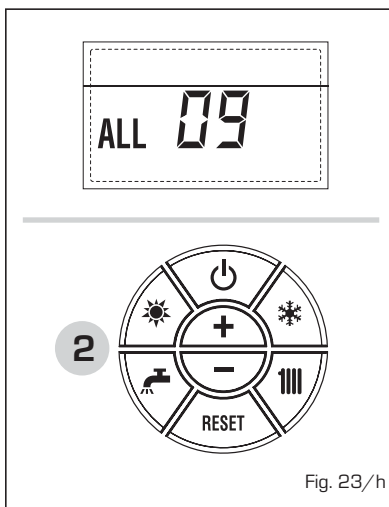

Fig. 23/h
- AUXILIARY SENSOR ANOMALY ALARM 10 (fig. 23/l)